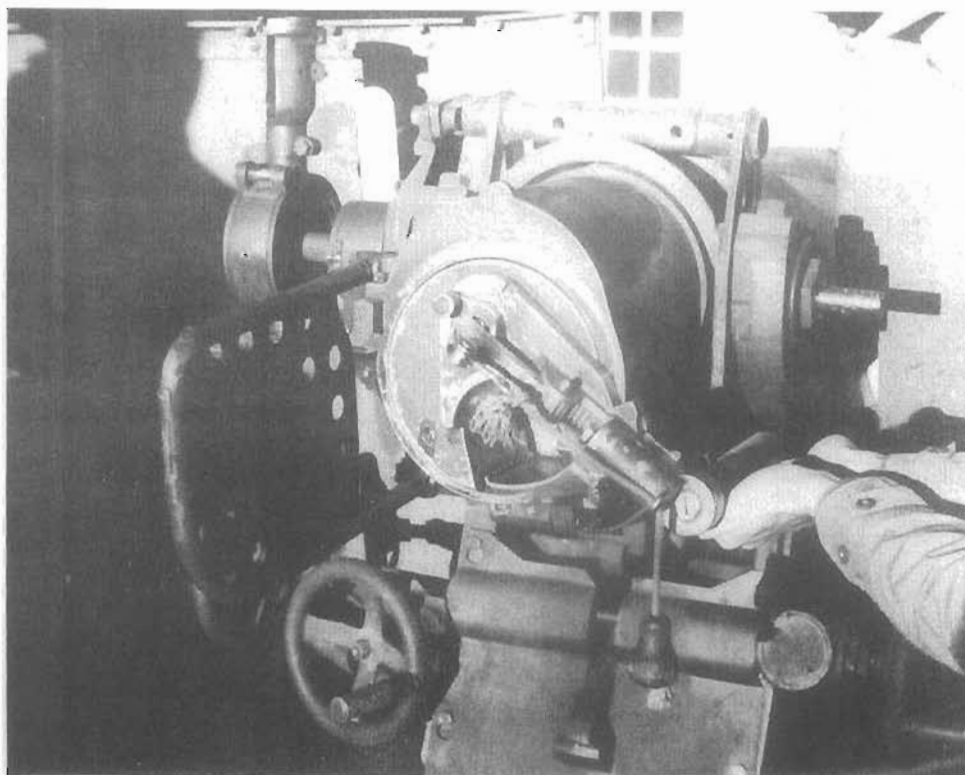

Figure 54
- c. Opens breech (BOTH PALMS UP) with sufficient force to eject shell (fig. 54); closes breech when gun is reloaded (fig. 55), and calls SET when he is ready.
to eject empty shell case (see fig. 54).